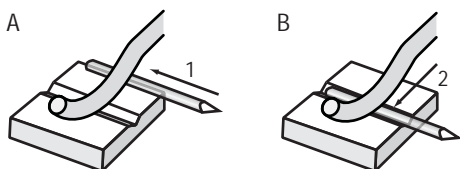

Figure 3-3: Mounting the tip under the tip clamp
- 1 Put the tip wire on the tip holder parallel to the groove in the tip holder, so that it crosses below the tip clamp (Figure 3-3: Mounting the tip under the tip clamp, A).
- 2 Move the tip wire sideways until it is in the groove in the tip holder (Figure 3-3: Mounting the tip under the tip clamp, B).